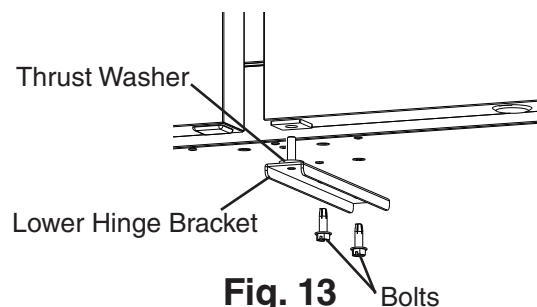

Fig. 13
- 6) Clear the foam from the lower hinge bracket mounting holes prior to securing lower hinge bracket in its new location. Install the lower hinge bracket in its new location. Be sure the lower hinge bracket is pushed all the way in and the thrust washer is in its original position. See Fig. 13.